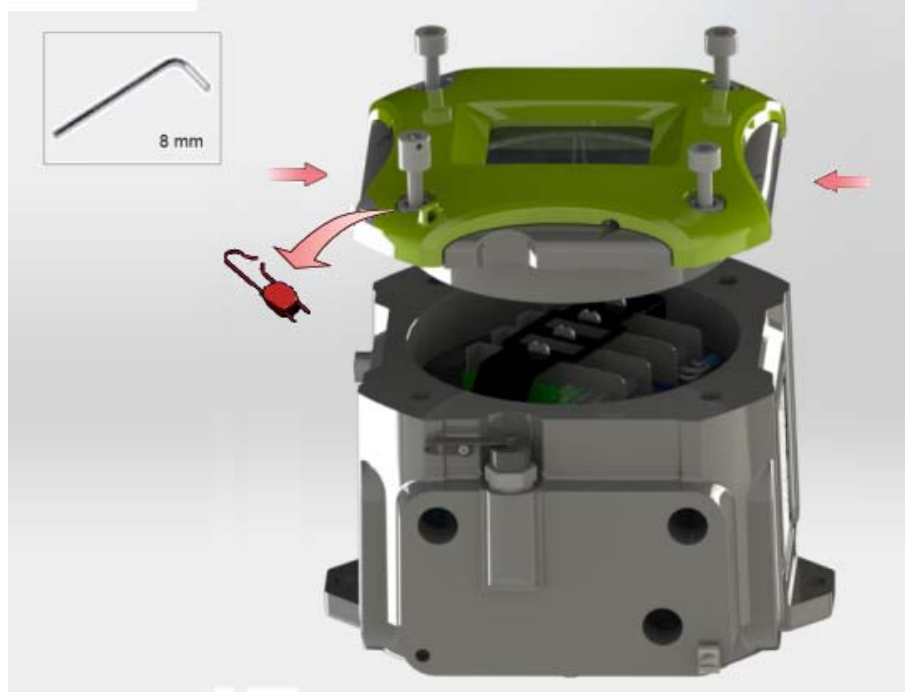

FIGURE 4-1
3. Pull the lid and rotate gently to aid removal. See figure 4-1.